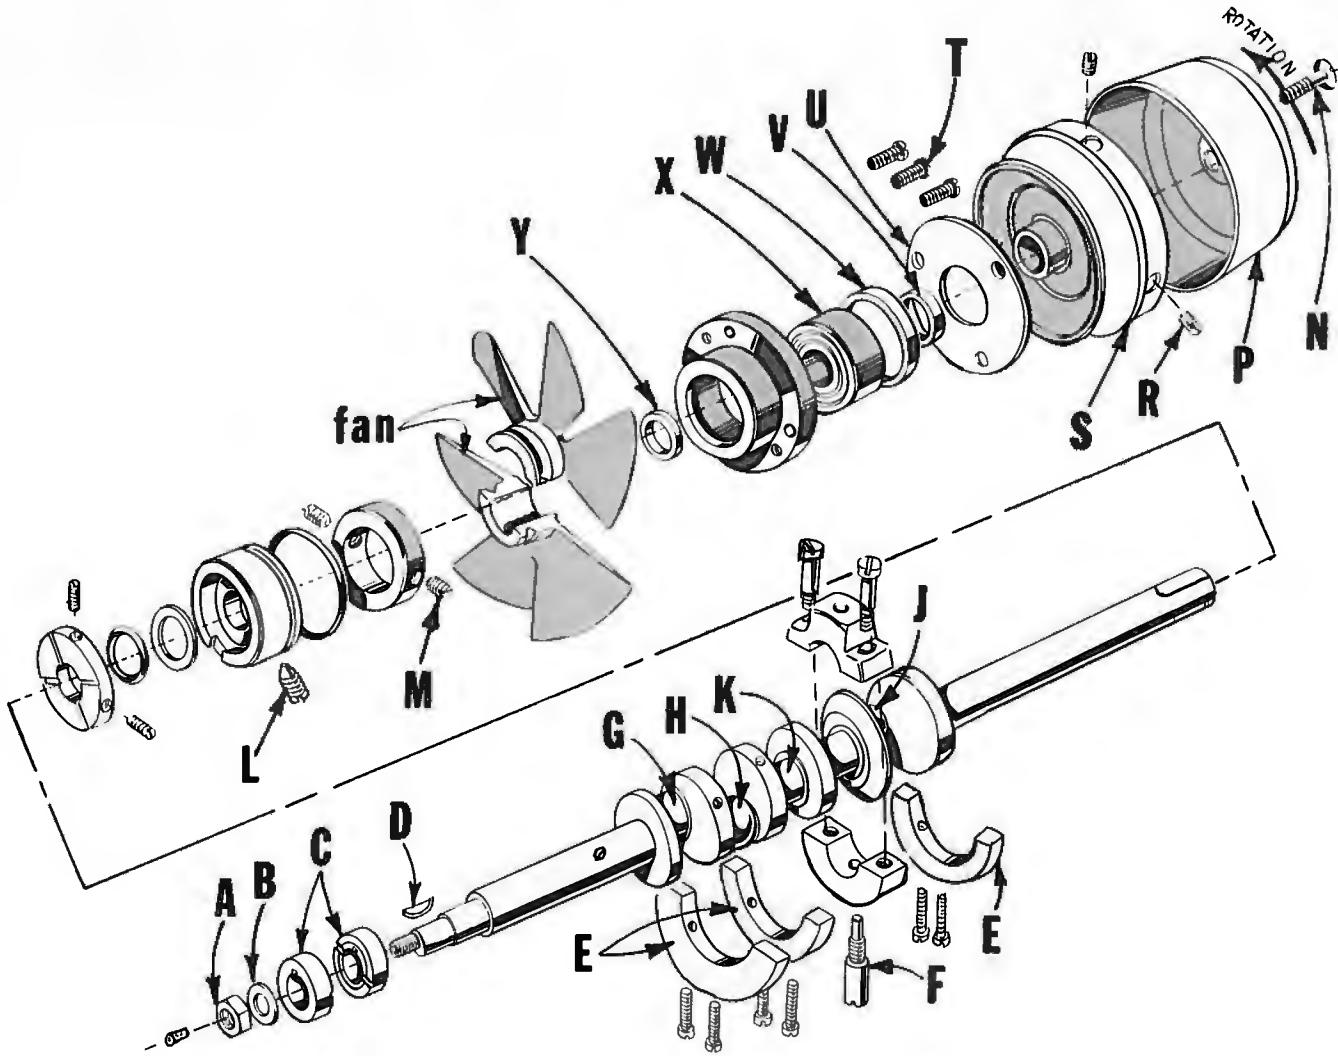

Fig. 21
3. Remove feed eccentric nut (A, Fig. 21) and washer (B), and, with the aid of the eccentric extractor, slip off the eccentrics (C).
4. Remove key (D).
5. Remove three counterweights (E). Identify these counterweights so that they will be re-assembled in the proper places.
6. Remove screw (F) which holds crankshaft split bearing. This screw is reached through bottom of bed casting.
8. Loosen clamp nut (A, Fig. 22) which holds upper knife driving arm (B). Access to clamp nut is through top cover. Draw driving arm to the left until upper knife driving lever (C) and connecting rod (D) drop, allowing removal of bearing cap (E). This is at bearing point (K, Fig. 21) on crank shaft. Observe same precautions when re-assembling cap as described in 7 above.
9. Remove screw (L, Fig. 21) which holds inner right crankshaft bearing. This screw is reached through bottom of bed casting.
10. Loosen two screws (M) in fan collar; remove both halves of cooling fan.
11. Remove screw (N); take off pulley cap (P).
12. Loosen two screws (R); remove pulley (S).
13. Remove three screws (T); take off bearing retaining plate (U); also, spacer collars (V) and (W) may be removed at this time.
15. If necessary to replace ball bearing (X), it should be pressed off shaft on an arbor press. In replacing bearing it must be pressed on carefully until it seats against ground thrust washer (Y).